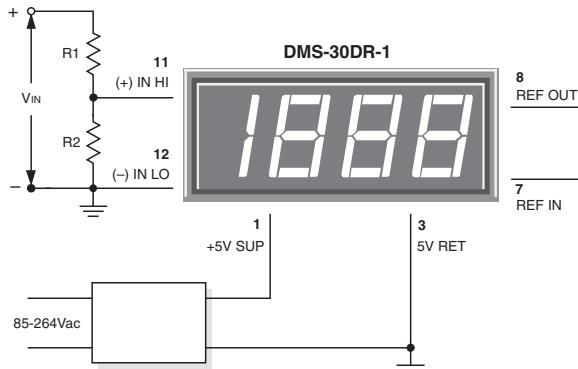

Figure 4. Input Attenuation Circuit
3. Engineering Scaling: For measuring voltages greater than the full scale input range of a given meter, the input signal must be attenuated. A simple voltage divider (similar to that shown in Figure 4) will scale the input to within the range of the selected meter. R1 and R2 should be precision, $\pm 1\%$, metal-film resistors with absolute TCR's less than 50ppm/ $^{\circ}\text{C}$. See Ap Note 4 for more information on engineering scaling.